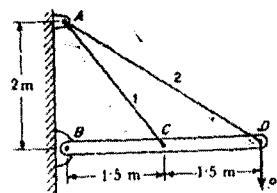

Fig. Q5
5. In fig Q5 an absolutely rigid bar BD is hinged B and supported by two guy wires attached to the vertical wall A. The steel guy wires are identical except for length and just taut but free from stress before the load is applied. Find the tensile forces S_1 & S_2 produced in the guy wires by load P.